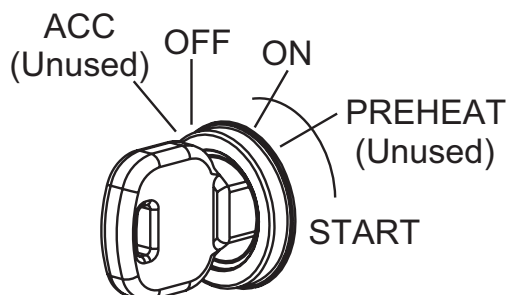

Figure 13. Ignition Switch and Key
3. Insert the ignition key into the ignition switch (Figure 13).